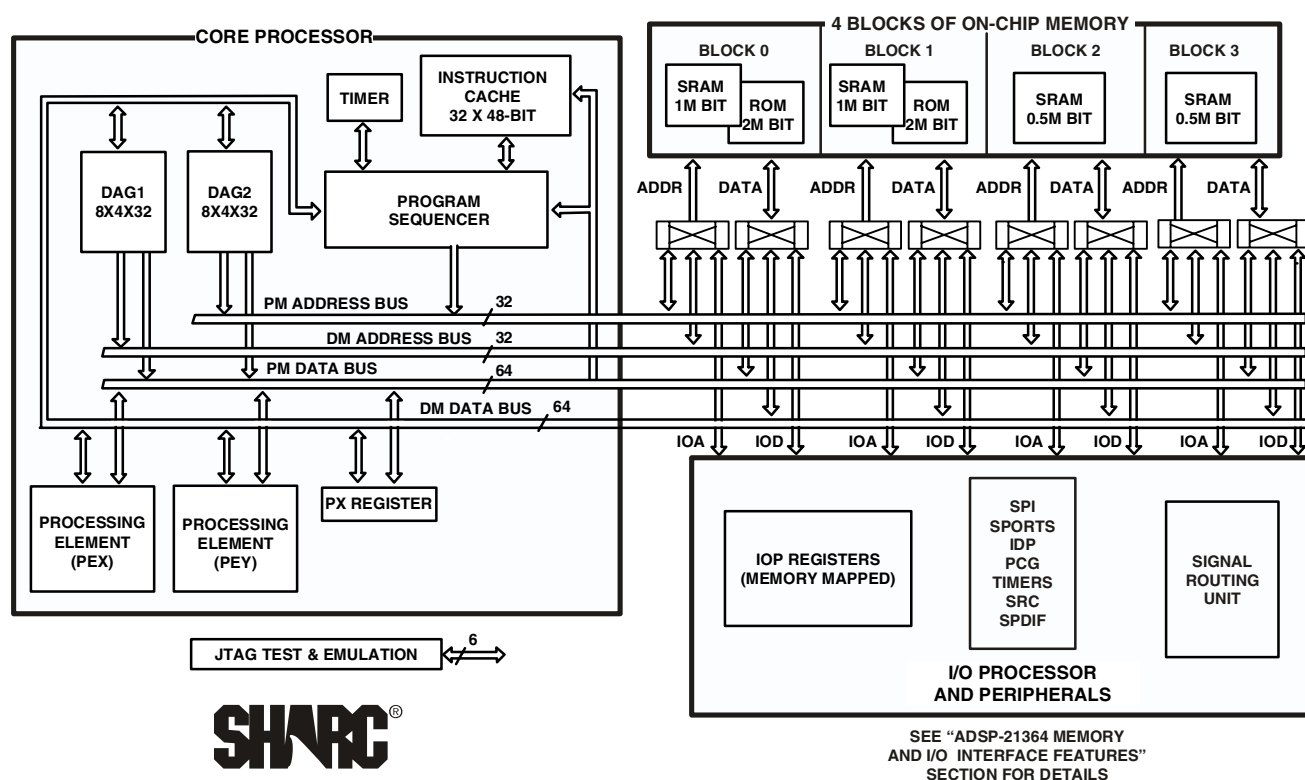

Figure 1. Functional Block Diagram – Processor Core
The ADSP-21364 features an enhanced Harvard architecture in which the data memory (DM) bus transfers data and the program memory (PM) bus transfers both instructions and data (see Figure 1 on Page 1). With the ADSP-21364's separate program and data memory buses and on-chip instruction cache, the processor can simultaneously fetch four operands (two over each data bus) and one instruction (from the cache), all in a single cycle.